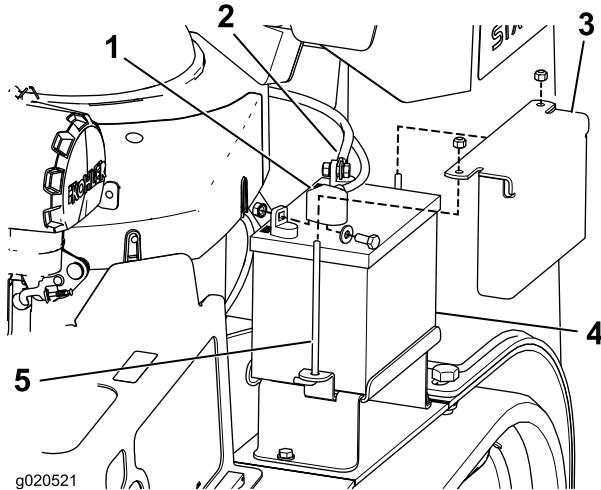

Figure 42
3. Lift the black rubber cover on the negative cable. Disconnect the negative battery cable from the negative (-) battery terminal (Figure 42).
4. Slide the red terminal boot off the positive (red) battery terminal. Then remove the positive (red) battery cable (Figure 42).
5. Remove the hold down plate, j-bolts, and locknuts securing the battery (Figure 42) and remove the battery.
1. Place the battery onto the machine (Figure 42).
3. First, install the positive (red) battery cable to positive (+) battery terminal with a nut, washer and bolt (Figure 42). Slide the rubber cover over the post.
4. Then install the negative battery cable and ground wire to the negative (-) battery terminal with a nut, washer and bolt (Figure 42). Slide the rubber cover over the post.